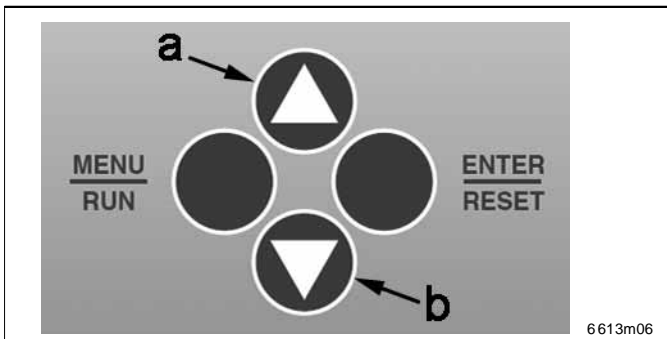

Fig. 21 Operating panel
As soon as you press the “UP“ key (pos. a, Fig. 21) outside of the configuration mode, the actual rest of the expired pause time (Fig. D) or lubricating time (Fig. E) is shown in the display.
- In the case of a field bus connection, set the system-related address code 0001 to 0255 by means of the UP and DOWN keys (see Fig. 21).
- Complete your selection with the ENTER key (Fig. 21).
The version number setting (0 - 5) is shown in the LMC2 display and is made using the UP & DOWN keys on the operating panel (see pos. a & b, Fig. 21).
- Complete your selection (0 - 5) with the ENTER key (Fig. 21).